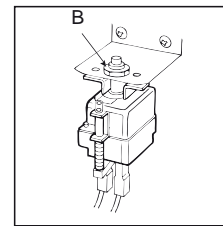

fig. 8
- 3) Pull out the thermostat wires and unscrew the thermostat fixing device (B - fig. 8) attached on the back side of the control panel;